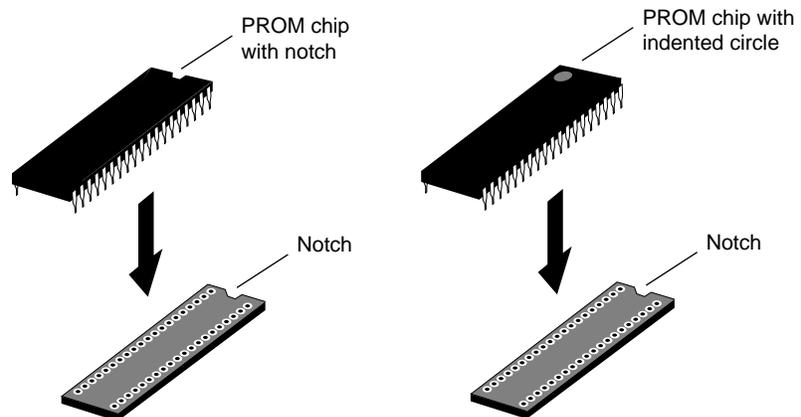

Figure 1-20 Lining Up the PROM Chip
- Grasp the new PROM chip. Orient the PROM above the socket on the system board so the end with the semi-circular notch or small, indented circle on the PROM chip lines up with the notch in the socket, as shown in Figure 1-20.